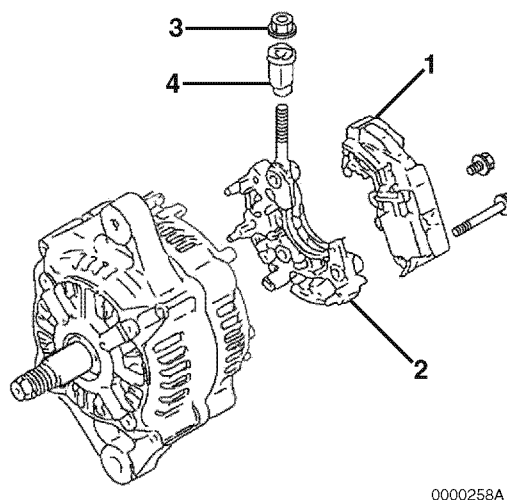

Figure 12-16
6. Reinstall the insulation bushing (**Figure 12-16, (4)**) and nut (**Figure 12-16, (3)**).
7. Reassemble the regulator assembly (**Figure 12-16, (1)**) to the holder (**Figure 12-16, (2)**).